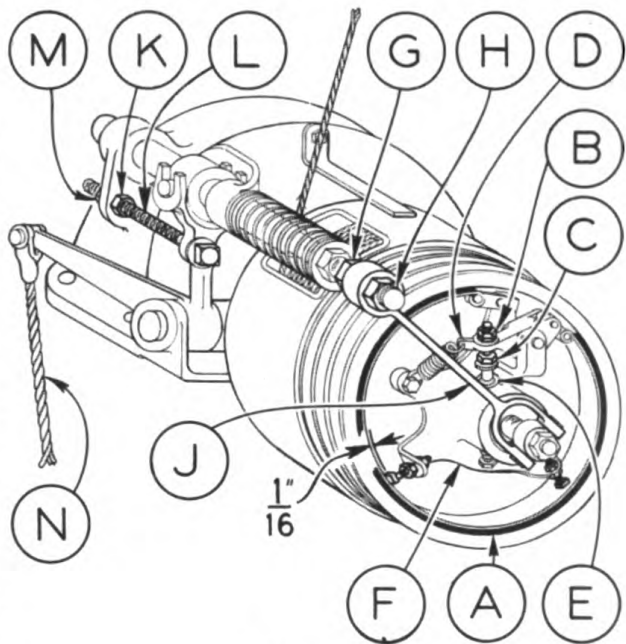
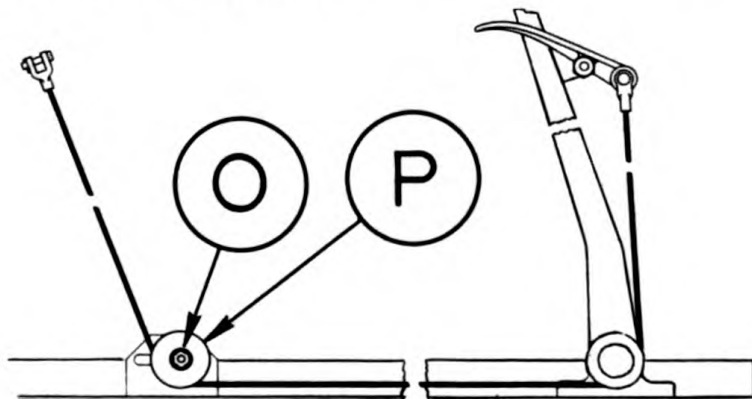

FIGURE 85
FIGURE 86
DIPPER TRIP CLUTCH AND TRIP OPERATING CABLE: (Figures 85 and 86).
The dipper trip clutch (Figure 85) should be so adjusted that when the operator pushes down on the trip lever (Figure 86) which is mounted on lever No. 4 Page 42, the dipper door will open instantly. This clutch should have a slight amount of drag all the time to prevent slack in the trip cable during the cycle of operation. To adjust the clutch band (A) for dipper tripping, loosen lock nut (B) and turn the adjusting bolt (C) out of the band crank arm (D) toward the hub (E) of the clutch spider (F) to tighten the clutch just enough to open the dipper
door when the trip lever is pushed down. When the adjustment on bolt (C) is used to its full extent, loosen lock nut (B), and screw bolt (C) up into band arm (D). Then loosen lock nut (G) and turn down nut (H) which moves the clutch shifter yoke (J) in toward the clutch far enough to take up the adjustment lost by screwing bolt (C) into the clutch arm. Tighten lock nut (G) and readjust clutch with bolt (C). To provide the proper amount of drag in the clutch to remove the slack in the trip cable, loosen nut (K) on bolt (L) and tighten nut (M), then test. If bolt (L) is drawn too tight, the dipper door will open during the operating cycle. Tighten lock nut (K) after proper adjustment of bolt (L) is made. The guide bolts should be so set that there is approximately 1/16" clearance between the head of the guide bolts and the clutch band when the clutch is fully engaged by holding the trip lever down. To adjust trip operating cable (N), shown in Figure 86, loosen lock nut (O) and move sheave (P) back far enough to make the cable taut. Tighten lock nut (O).